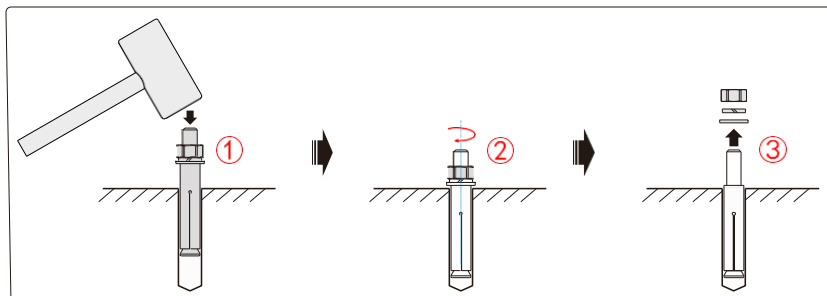

Figure3-12 Install expansion bolts
Step 3 Install the expansion bolt, as shown in Figure3-12.